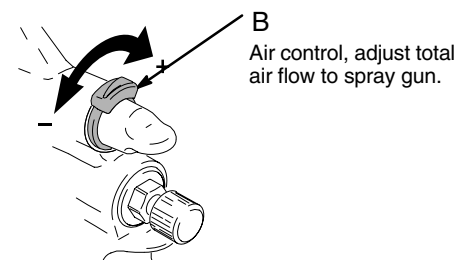

Fig. 5
5. Air Control Valve (B) on end of the gun controls both atomizing air and pressure in spray gun cup. See Fig. 5. Adjust air control valve as needed.